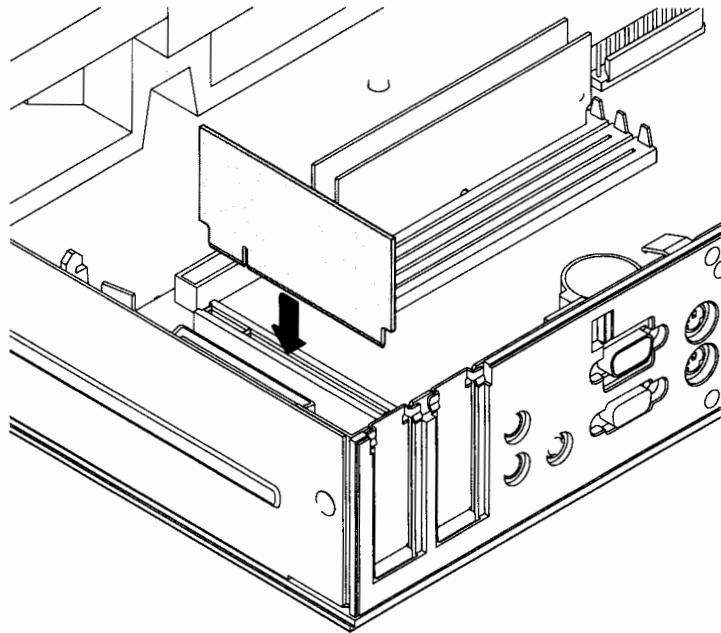

Figure B-25. Installing the VRAM Board
3. Install the TeleShare board by inserting the board into the TeleShare connector, as shown in Figure B-25. Press the board firmly into the connector to make sure it is fully seated.
2. Align the connector on the VRAM board with the connector on the CPU board. Mate the connectors and press down firmly on the VRAM board to make sure it is fully seated. See Figure B-25.